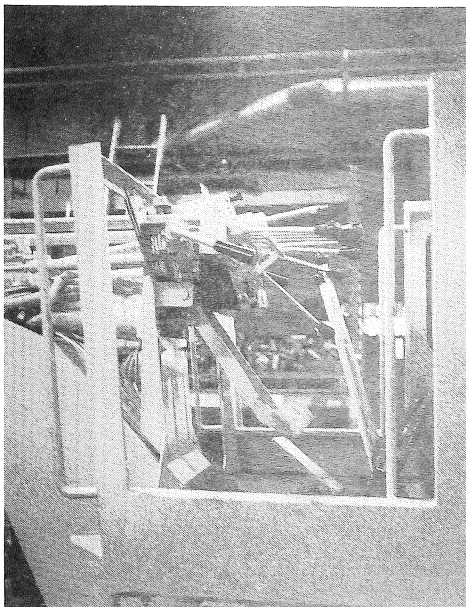

Figure 5
6. Steering wheel removed; hydraulic control levers disconnected and hung down; attachment switch panel removed (Fig. 5).